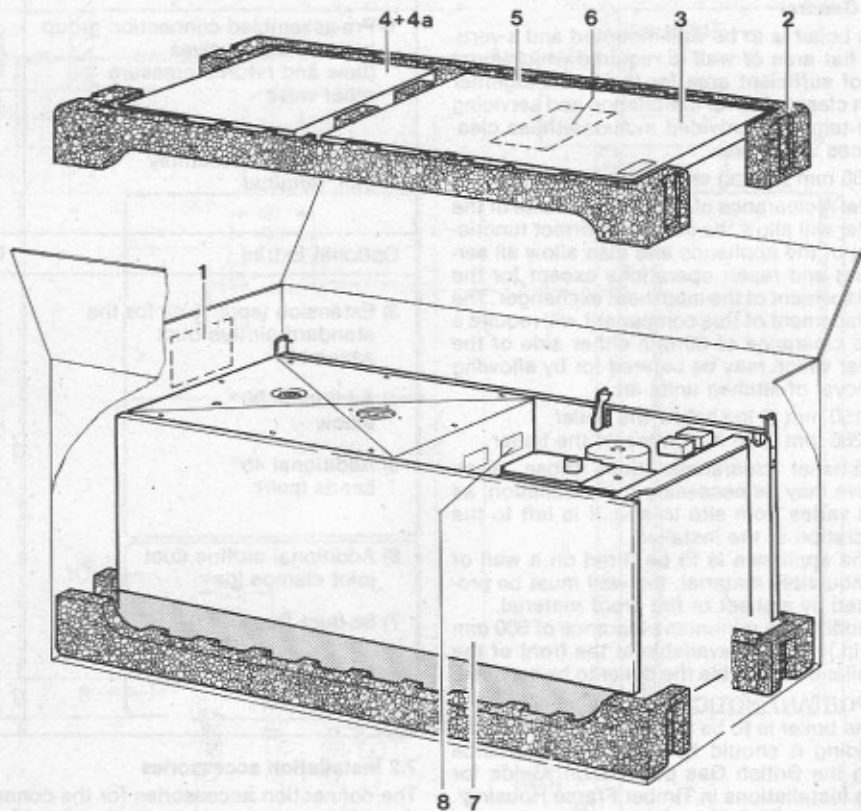

Fig. 11
- the cased boiler (item 1, fig 11).